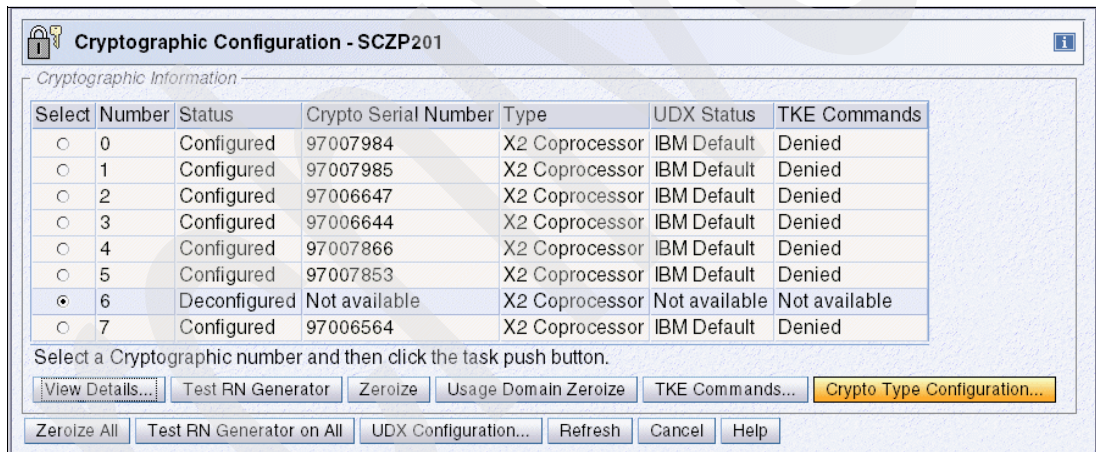

Figure 8-21 SE - Cryptographic Configuration task (Coprocessor)
2. The reconfiguration is enabled only for PCI-X adapters that are Off, so make sure the PCI-X Cryptographic adapter status for that crypto channel is **Deconfigured**; see Figure 8-21.